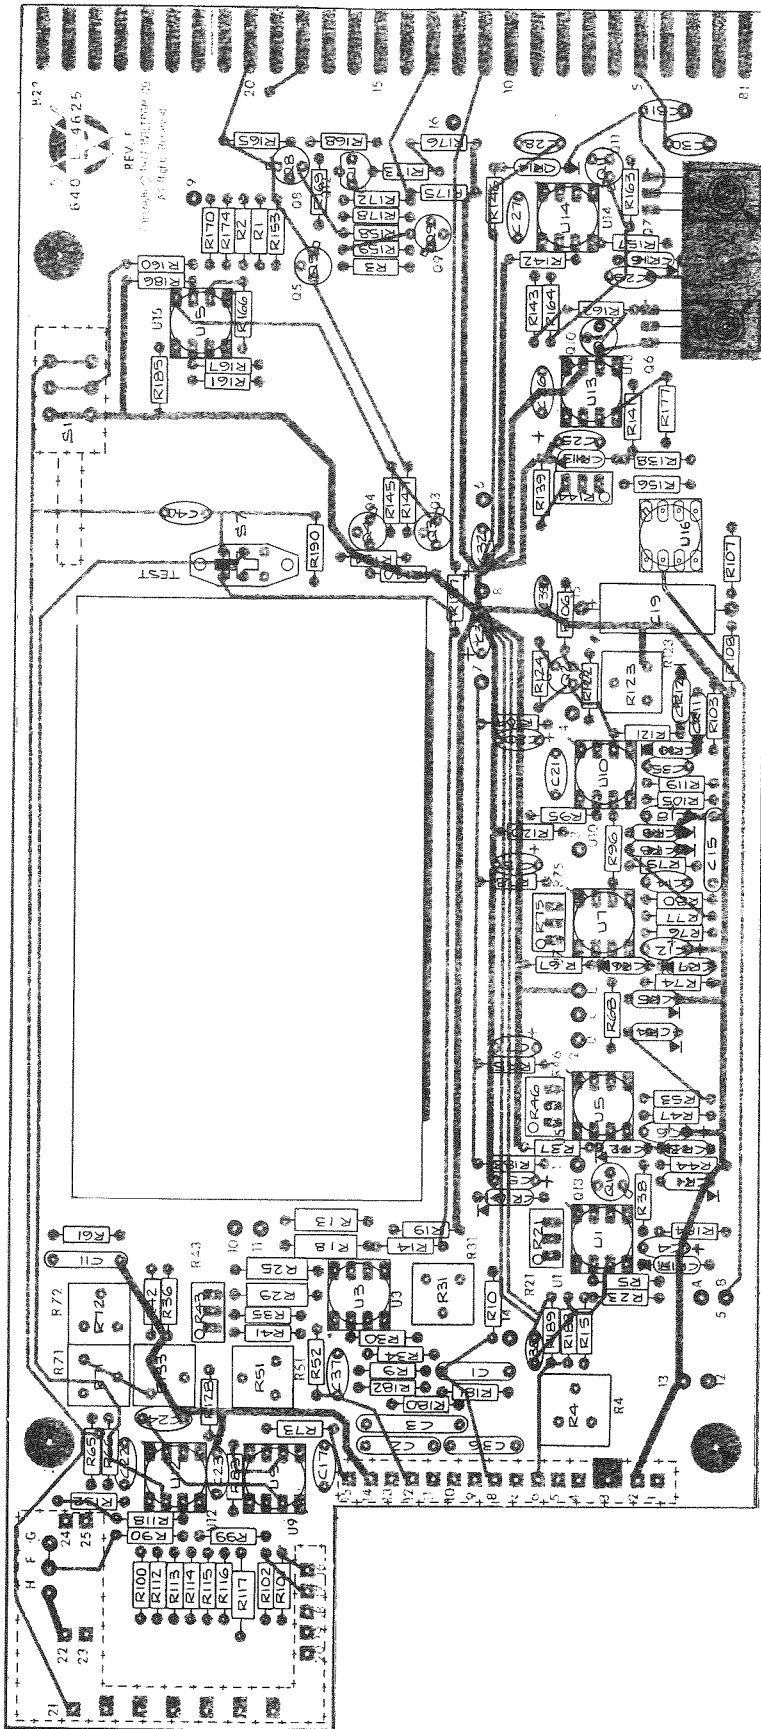

Figure 4-9. Log Plug-In PC Assembly
Unless otherwise noted, use TP8 as reference ground (Figure 4-9).
1. Connect DVM to TP6 and adjust -15V Adj R144 until DVM reads -15V \pm 1mV (Figure 4-9).
2. Connect DVM to TP7 and check that the voltage is +15V \pm 300mV (Figure 4-9).
2. Place a temporary jumper between TP12 and TP13 (Figure 4-9).
3. Connect DVM to the following test points in Table 4-6 and adjust the appropriate potentiometer for the proper reading (refer to Figure 4-9 for location of test points).
2. Connect the DVM between terminal F and TP9 (Figure 4-9).
3. Adjust Zero R133 until DVM measures 0 ± 100µV (Figure 4-9).
5. Adjust +Dial Tracking R71 until DVM reads 1V ± 1mV (Figure 4-9).
8. Adjust -Dial Tracking R72 until DVM reads -2.5V ± 1mV (Figure 4-9).
2. Connect DVM between TP16 and TP8 (Figure 4-9).
3. Adjust 0 dBm Offset R43 until DVM reads 0 ± 5mV (Figure 4-9).
DVM reads $-1V \pm 5mV$ (Figure 4-9).
4. Adjust Det Slope R31 so the ends of the RF trace are at the same vertical level on the CRT (Figure 4-9).